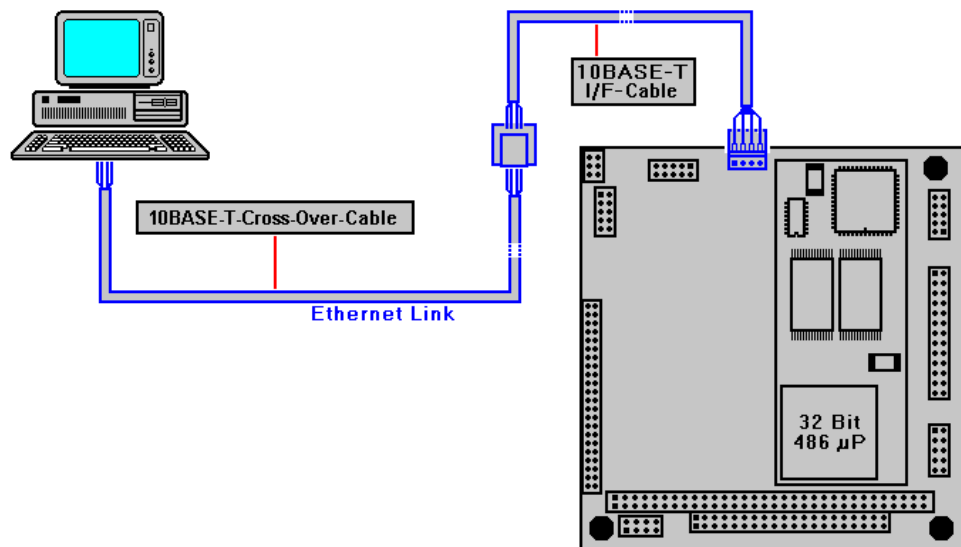

Figure 9: Cable installation via 10BASE-T cross-over cable
As alternative to the hub or switch you can work also with a 10BASE-T cross-over cable. Such a cable is used for the direct Ethernet connection between two systems. You can see such a configuration in figure 9. In a 10BASE-T cross-over cable the wire pairs for send and receive data are crossed. At a 10BASE-T patch cable there are no cables crossed. From this reason the different cable types do not
- Figure 9: Cable installation via 10BASE-T cross-over cable